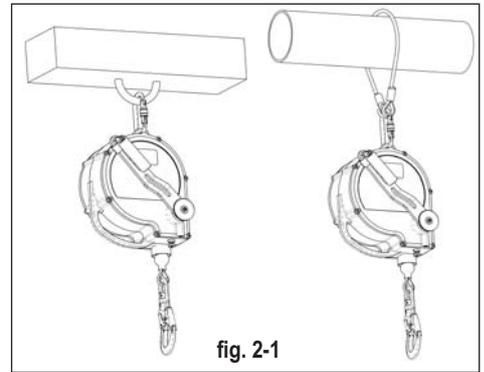

fig. 2-1
**Anchor device or anchor point** should always be positioned, and the work carried out in such a way as to minimise both the potential fall and potential fall distance. The structural anchor point should be placed above the user's position, should have stable structure and its shape shall not allow to self-acting disconnection. The minimal strength of the structural anchor point should be not less than 12kN. It is recommended to use certified and marked structural anchor point or device, conform to EN795 standard. Connecting the fall arrester to a structural anchor point should be done by joining the arrester handle to a structure with the aid of a connector or sling complying with EN362 or EN795 standards (fig. 2-1).
The CRW200 may be attached to a stable structural element of minimal strength not less 12kN. The device connection to the structural anchor should be done with the aid of a connector or sling complying with EN362 or EN795 standards (fig. 2-1). The CRW200 may be attached to a tripod's head (suspended in vertical orientation) or installed on tripod's leg. [see UTILIZATION WITH A TRIPOD]